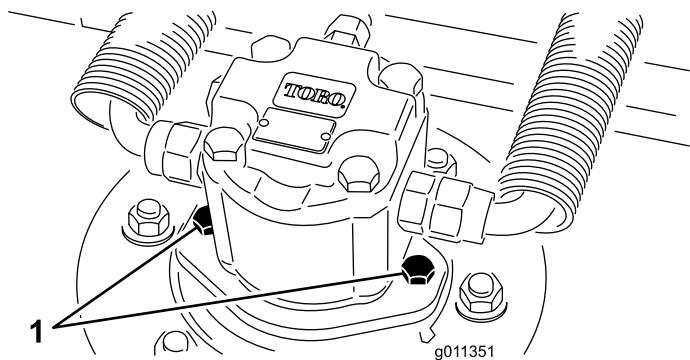

Figure 69
2. Disconnect and remove the hydraulic motor from the cutting unit (Figure 69). Cover the top of the spindle to prevent contamination.
4. Install the hydraulic motor to the deck (Figure 69). Make sure that the O-ring is in position and not damaged.